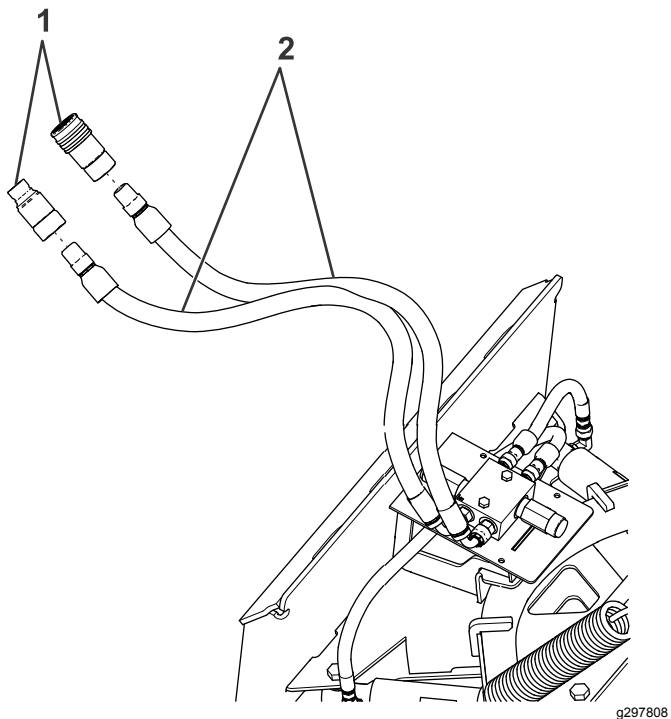

Figure 8
9. Install the 90° fittings of the long hoses to the fittings on the right side of the hydraulic block (Figure 8).
- 10. Attach the quick couplers to the free end of the long hoses, as shown in Figure 8.